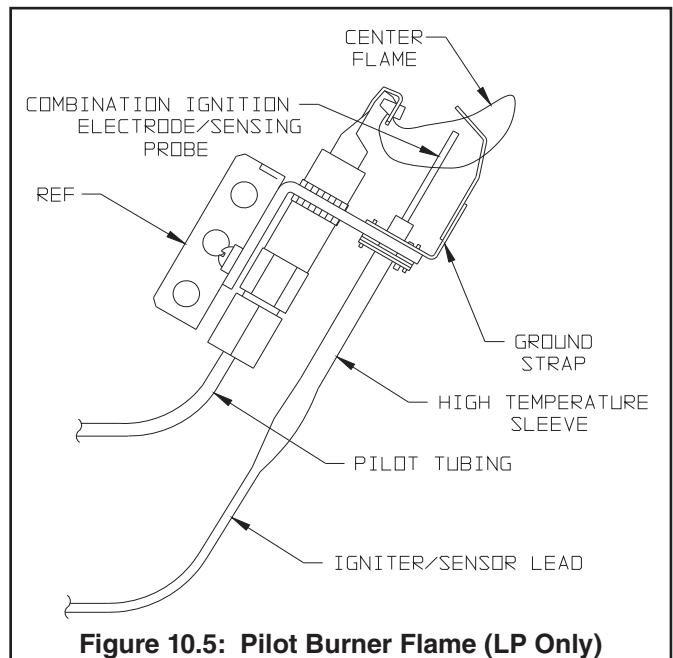

Figure 10.5: Pilot Burner Flame (LP Only)
LP Gas Only. The pilot burner produces three (3) flames. The center flame should be steady, medium hard blue enveloping 3/8 to 1/2 inch of sensing probe. See Figure 10.5